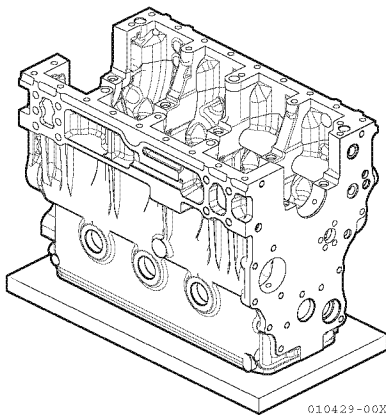

Figure 5-127
2. Place a wood block on the floor and place the cylinder block upside down with the cylinder head mounting surface facing down (**Figure 5-127**).